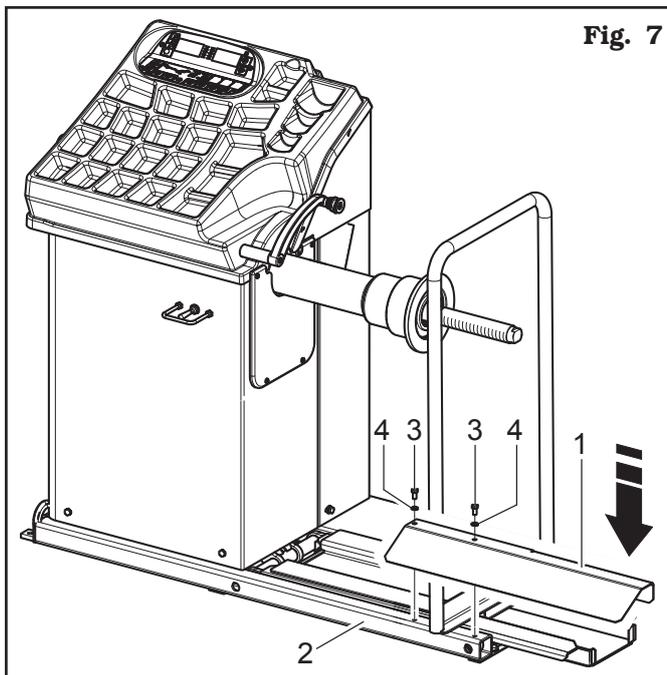

Fig. 7
Fasten the foot guard protection (Fig. 7 ref. 1) at the base of the lift (Fig. 7 ref. 2) using the screws (Fig. 7 ref. 3) and the washers (Fig. 7 ref. 4) supplied.